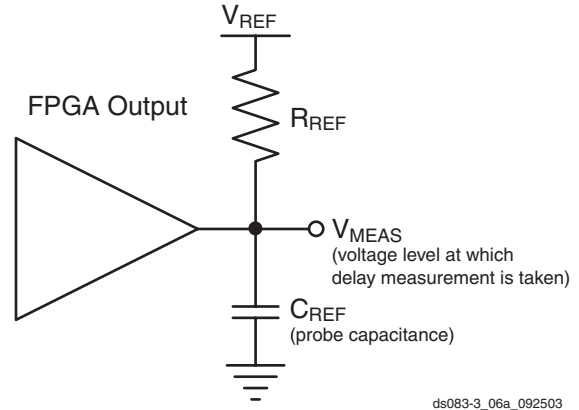

Figure 6: Generalized Test Setup
- Note that this is an input voltage reference that bears no relation to the V_{REF} / V_{MEAS} parameters found in IBIS models and/or noted in Figure 6.
Output delays are measured using a Tektronix P6245 TDS500/600 probe (< 1 pF) across approximately 4" of FR4 microstrip trace. Standard termination was used for all testing. (See Virtex-II Pro Platform FPGA User Guide for details.) The propagation delay of the 4" trace is characterized separately and subtracted from the final measurement, and is therefore not included in the generalized test setup shown in Figure 6.